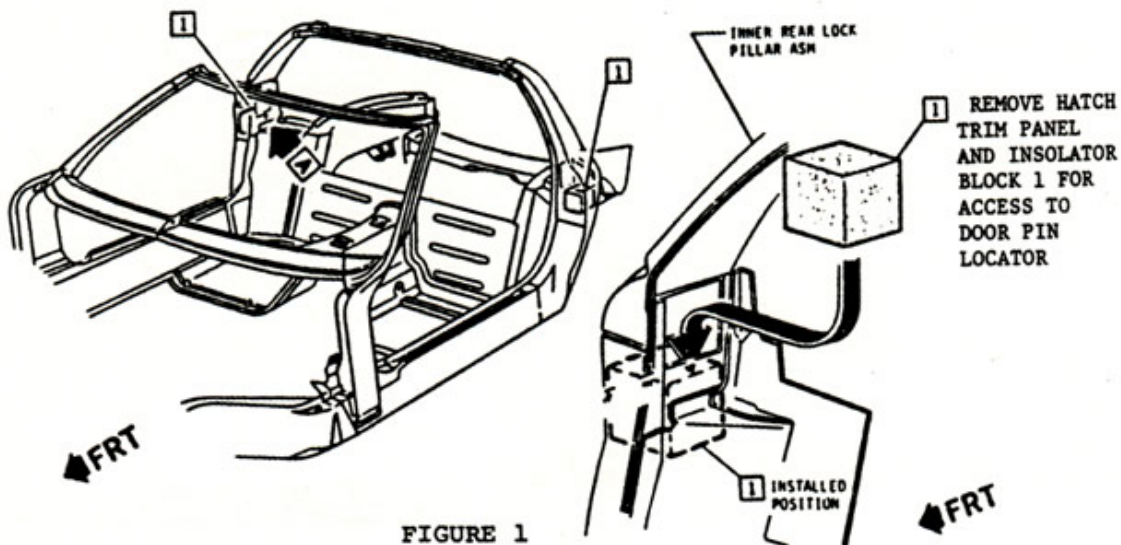

FIGURE 1
Verify the plastic sleeve is installed in the pin locator assembly. With the vehicle door closed, loosen the locator three (3) attaching bolts (see Figure 1). The locator assembly is to be centered fore-aft and vertically on the door pin. Push the locator outboard to fully engage the door pin and tighten the locator attaching bolts to 11 N.m (8 ft. lbs.)